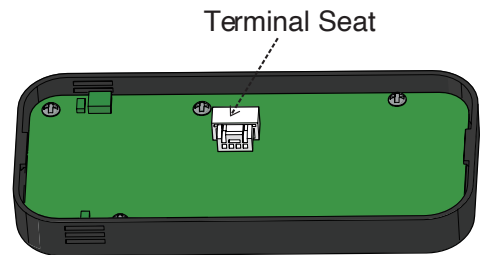

Fig. 4
- Insert one end of the control switch lead wire into the PCB board terminal as shown in Fig. 4 and the other end through the back cover and installation opening as shown in Fig. 3.